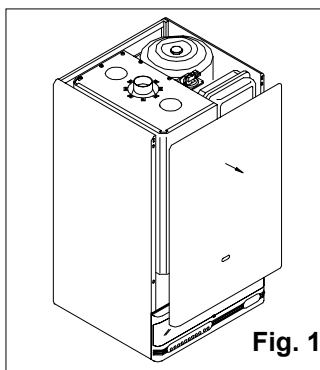

Fig. 1
- B. Remove the boiler front casing in the direction of the arrows (see fig.1).